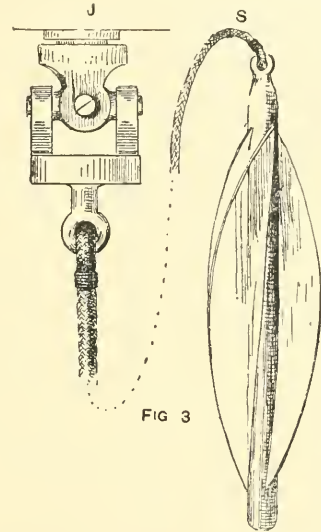
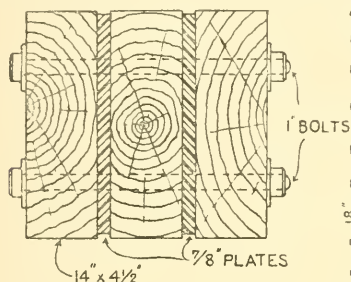
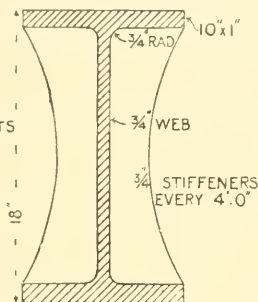

FIG 3
Fig. 1
Fig. 2
Working a Ship's Log.—The speed of a ship is ascertained by the "patent log" or by a "log ship" and sand glass, the latter still being preferred by most sailing ship masters. The "log ship," two forms of which are given in Figs. 1 and 2, is hove over the weather quarter attached to the log line divided into "knots," a "knot" bearing the same proportion to a mile as the sand glass running in seconds does to an hour. Sand glasses, or "log glasses," are made to run 14 seconds and 28 seconds (the former being for use when fast travelling, and the knots by line have of course to be doubled if spaced for 28 seconds). It must be remembered a nautical mile is 2,027 yd., usually called 6,080 ft. It corresponds with the minutes of arc; thus there are $360 \times 60 = 21,600$ of arc, or nautical miles, on a "great circle" (or the equator). The number of yards therefore in a "great circle" divided by 21,600 will give the number of yards in a nautical mile. In calculating the length of a knot in feet, the rule adopted is this. To the seconds run by the glass affix a cypher and divide by 6. The remainder when doubled gives the inches. Thus for a 28-second glass $\frac{28}{6} = 46 + 4$, or the distance between adjacent knots = 46 ft. 8 in. This is not correct, but the error is for safety, as the ship, unaffected by favourable currents, will be behind her position by log or "dead reckoning," as it is called. To calculate the exact length between adjacent
knots on the line, multiply 2,027 by 14 or 28 and divide by 3,600. Fig. 1 is the wooden log ship; it is a wooden quadrant about ½ in. thick and 10 in. diameter, the arc being weighted with lead to make the log float vertically. The end of the log line L passes through a hole and is secured by knotting at the back, while a wooden peg P is attached to a span B from the line L. When the log line is suddenly checked in its running out, this wooden peg withdraws its hold in the quadrant, and the log ship is hauled in with ease. The canvas log is shown in Fig. 2. The log line is attached at D to the canvas bag C, at the mouth of which is a span seized to the peg at E, which is pushed into a wooden ferrule W seized to the log line; when the line is checked the peg withdraws as in the former case, and the bag closes, being hauled in bottom foremost. The "patent log," by which name the several revolving logs go at sea, is self-registering, and not hove at intervals as the former kind. A meter is clamped to the taffrail, showing on its face by three hands the units, tens, and hundreds of nautical miles run since the last setting, which is done at noon. This meter is a simple train of wheels to which motion is imparted by a threaded pin. At the back of the meter and attached to the pin is a brass universal joint J (Fig. 3), to which is secured the end of a line sufficiently long to clear the eddies and backwash of propellers, etc. At the other end is the spinner S, a three-bladed brass fan, pitched to revolve at such a speed that after being towed one mile the unit hand on the meter shall have made one revolution from 0 to 0, the intermediates being marked 1, 2, 3. Sometimes a light fly-wheel is attached to the line just abaft the taffrail, but this is not really necessary. Ball bearings between a cone collar on the shaft and a dished
How to Make a Bevel Set-square.—Fig. 1 shows a side elevation of a carpenter's bevel set-square of suitable dimensions for setting out diminished stile doors constructed of plank widths; but a much smaller tool would be more handy for general purposes. The tool consists of two parts: a skeleton set-square made of steel or stout zinc, the former preferably, and an adjustable stock working in a slot which is about two-thirds the length of the long edge of the square. The stock is very similar to that of an ordinary bevel, except that it is in two parts which are connected at the ends by means of clamping set-screws, as shown in the end elevation (Fig. 2);
it is applied. The tool can easily be changed into a perfectly true mitre square by fixing the stock at equal distances along both edges from the angle, or it can be used as an ordinary bevel. A wooden instrument based on the same principles is used by some joiners, but it is a clumsy article, and cannot be finely adjusted. The tool can be used as a set-square, or, by clamping down the stock in the position shown by dotted lines in Fig. 1, as a try-square.
Comparative Designs of Girders.—Assuming the load is 10 tons distributed over a span of 18 ft., the calculations will be as follows. (1) Flitch beam: $W = \frac{d^2}{L} (C b + 30 t)$; where W = breaking weight in cwt. in centre; d = depth in inches; L = span in feet; C = constant = 3 for Memel; b = total breadth of timber in inches; t = thickness of flitch plate in inches. Factor of safety, 10. One or two trial designs may be necessary before finding a suitable one, when Fig. 1 may be decided upon. Ten tons distributed = 5 tons
in centre multiplied by 10 for breaking weight = 50 tons = 1,000 cwt. Breaking weight = $\frac{14 \times 14}{18} (3 \times 14 + 30 \times 14) = \frac{93}{9} (42 + 52) = \frac{98 \times 94}{9} = 1,029$, or a trifle in excess of the strength required. (2) Cast-iron girder: Depth, say, one-twelfth of the span = 18 in. Stress in bottom flange $\frac{Wl}{8d} = \frac{10 \times 18}{8 \times 15} = 15$ tons. Allow $1\frac{1}{2}$ tons per square inch in tension; $\frac{15}{1\frac{1}{2}} = 10$ sq. in. Make top flange same size to allow width for building upon and possible tension in top flange from ends being built in, so that the section will be as Fig. 2. (3) Wrought-iron plate girder: For the same depth the stress in bottom flange will be as found above = 15 tons. Allow 4 tons per square inch on the gross sectional area = $3\frac{3}{4}$ sq. in. Say, one 4-in. plate 8 in. wide for each flange, with 2-in. by 2-in. by 1/2-in. angle irons, and 1-in. web, and stiffeners every 4 ft., as in Fig. 3. Rolled steel joist: By reference to Dorman Long & Co.'s section book, a 12 in. by 5 in. by 32 lb. rolled steel joist will carry 10 tons distributed over a span of 18 ft.; but 5 in. is narrow to build upon, and a 3/4-in. top plate would be a desirable addition, as in Fig. 4.